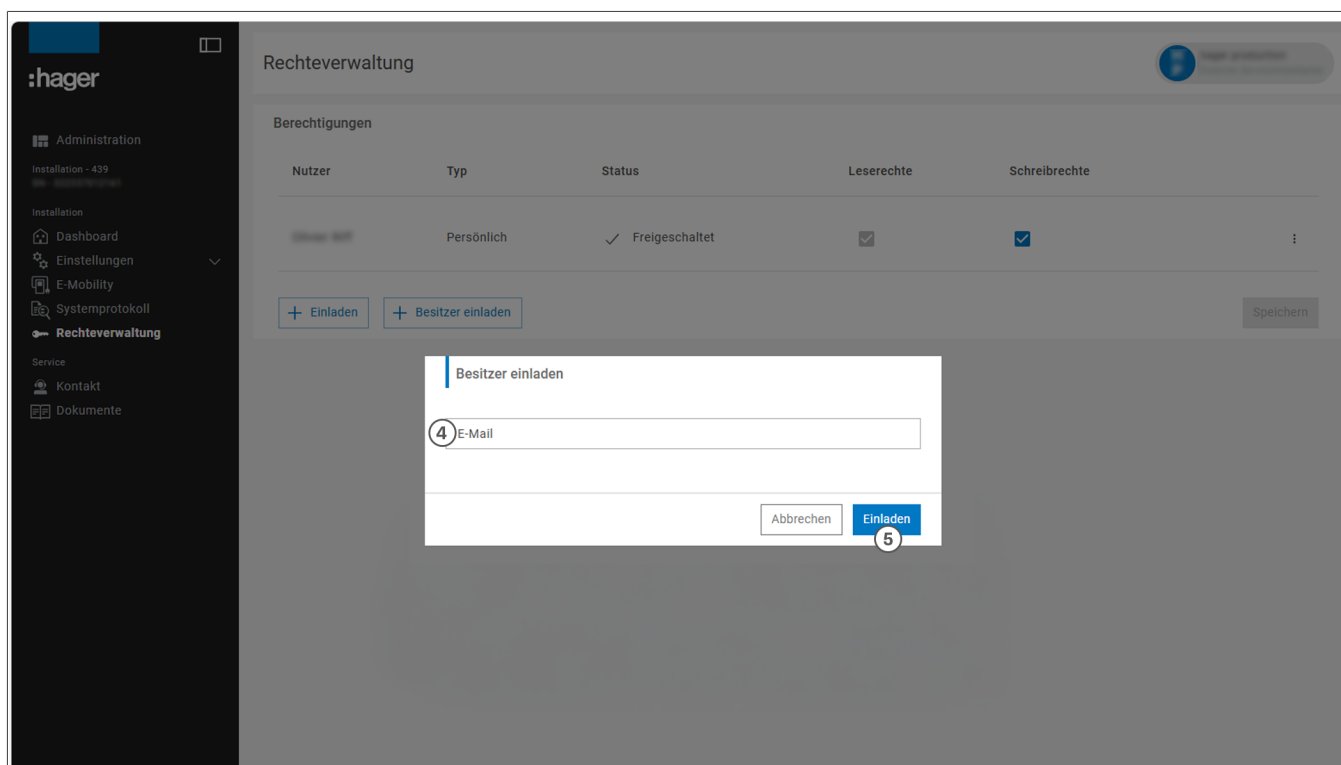

Fig. 50: Owner (customer) email address
- ③ Enter the owner's **email address** (Fig. 50) and send it using **Invite**, or cancel the process.